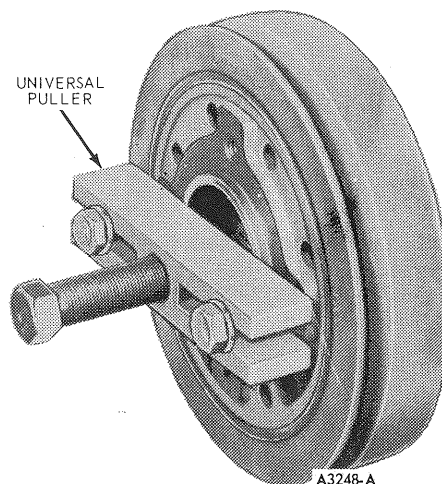

FIG. 50 Removing Crankshaft Vibration Damper
3. Remove the crankshaft pulley from the crankshaft vibration damper. Remove the damper attaching screw and washer. Install the puller on the crankshaft vibration damper (Figure 50) and remove the vibration damper.